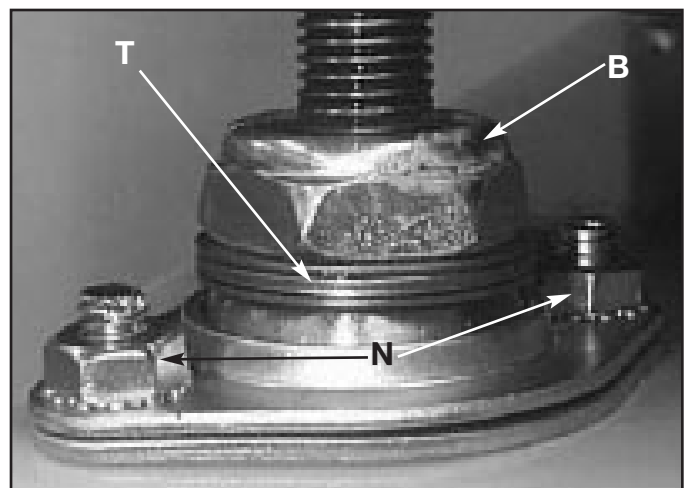

Fig. 41
1. At the base of three of the elevating screws there is a 3/4" lock nut (B) Fig. 41. Under this nut is a thrust washer, thrust bearing, and another thrust washer. [See (T) Fig. 41]. **Note:** The front left elevating screw uses a jam nut and it should be tight.
3. With a 7/16" open end wrench loosen (do not remove) the four nuts (N) Fig. 41 bolting the sheet metal flanges around the two elevating screws on the open end of the unit.